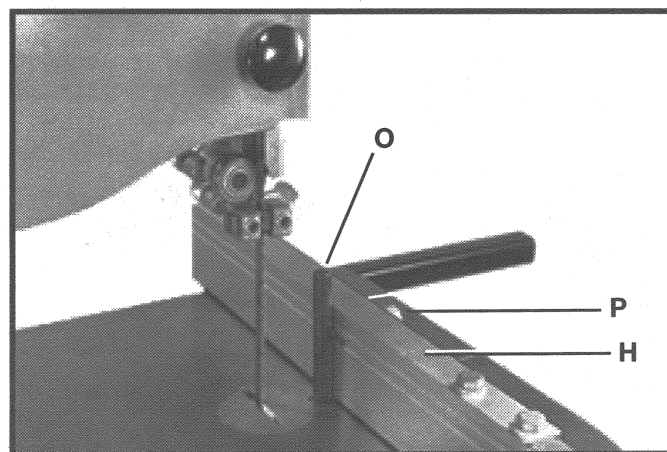

Fig. 9
3. Attach the guide post (O) Fig. 9 to the fence assembly (H). Insert the screw (S) into the the hand knob assembly (P). Tighten it down. Insert the hand knob assembly and screw through the fence (H) and into the guide post. (O) Position the guide post on the fence assembly so that it is centered with the front edge of the blade to provide better control. Tighten the guide post assembly.